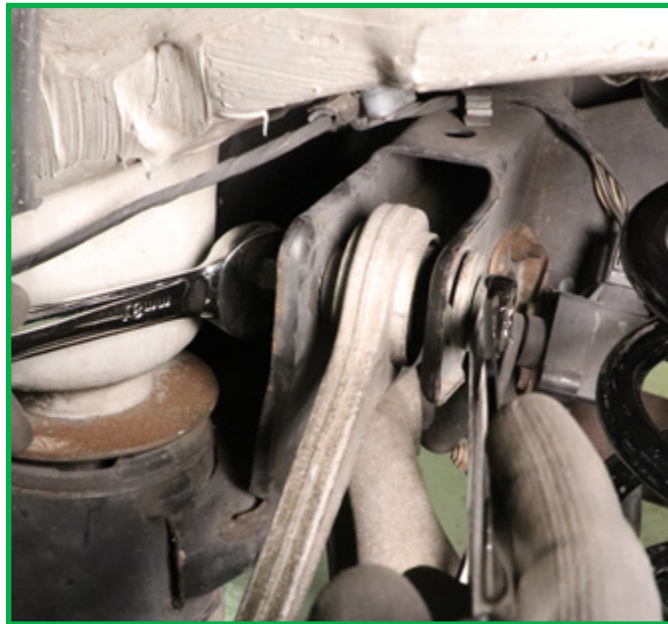

FIGURE 36
5. Reconnect upper control arm. Tighten to manufacturer's specifications. (Figure 36)